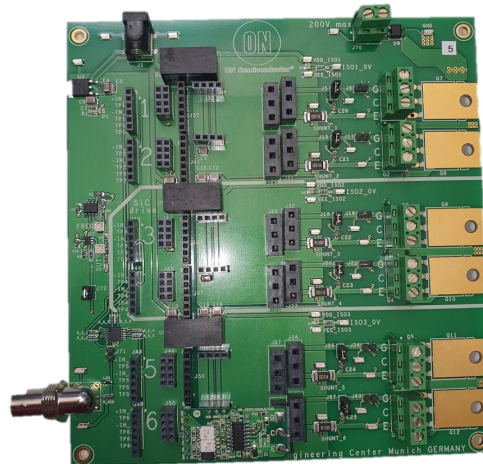

Figure 6. NCD5700 Connected to SECO-GDBB-GEVB Auxiliary Evaluation Board
- Plug-and-Play Testing with SECO-GDBB-GEVB as seen in Figure 6
The board can be mounted into an existing power board, shown as “Main PCB” in Figure 6. If there are no components or low profile surface mount components only, the mini SMD EVB can be mounted parallel to the main PCB as shown in Figure 6. The TO–247, power device leads would pass through the mini EVB plated thru–holes and into the main PCB. Or, if necessary, the gate lead of the TO–247, power device can be soldered to the plated thru–hole on the EVB and cut so that it does not contact the main PCB. For mechanical strength, it is preferred that the TO–247 gate lead pass through both PCB’s. This configuration is helpful for already existing application with horizontal TO–247 positions.